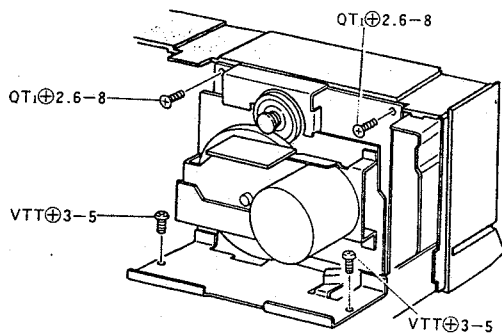

Fig. 13
3) Remove 4 screws. (See figure 13)